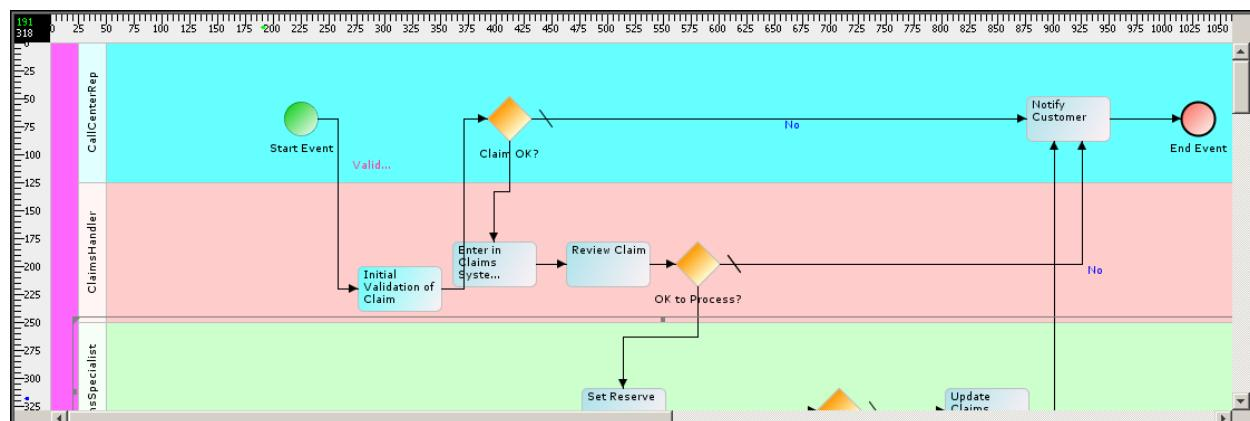

Figure 49: Edit Background Colors of Swim Lanes
- This displays the **Select Color** screen (see Figure 49).
- Select the color for the selected swim lane and click **OK**. This changes the label and background color for the selected lane (see Figure 49).